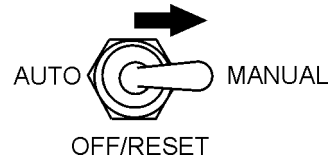

Figure 28. Auto-Off/Reset Manual Switch (Manual Position)
3. Place the **Auto-Off/Reset Manual Switch** in the **MANUAL** position to start the engine (Figure 28).